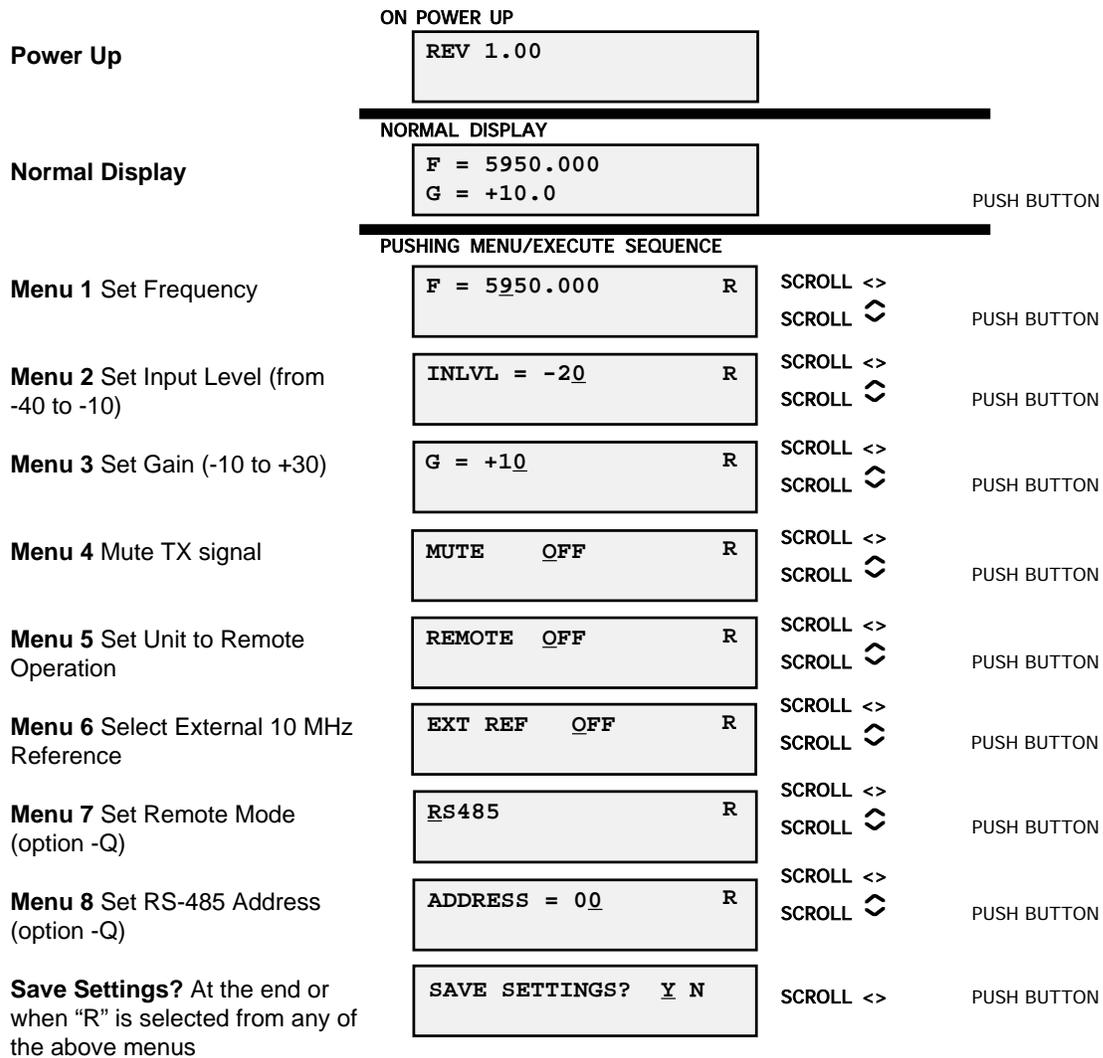

FIGURE 2.5 Menu Display and Sequence
2.5.1 Functions - This section describes operation of the front panel controls. There are three operator switches, the LCD display and alarm indicator LEDs. All functions for the equipment are controlled by these components. The functions are (see Figure 2.5):
1. Operate the Menu/Execute switch until you get to the menu item you want to change see Figure 2.5 for the sequence of menu options. The following display is for changing the upconverter frequency:
Figure 2.5 shows all the menu items and how to make changes.
Operate the Menu/Execute switch until you get to the menu item you want to change (see Figure 2.5 for the sequence of menu options). The following display is for changing the upconverter input level. This is an important setting to optimize spurious and should be made as accurately as possible:
Figure 2.5 gives the menu items and how to make changes.